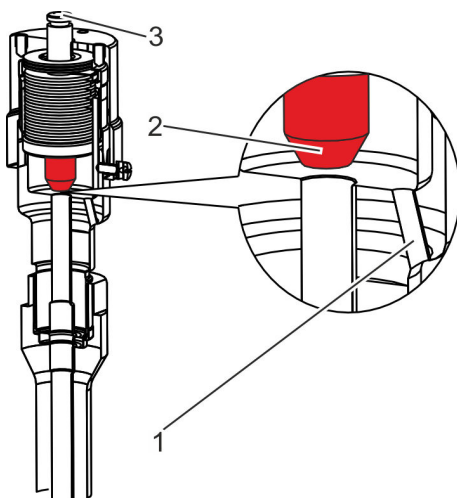

Fig. 8: Exceeding the triggering pressure
If the pressure in the gate valve exceeds the triggering pressure of the spring-loaded over pressure safety device, the cone (Fig. 8/2) is lifted out of the seat and the excess pressure is reduced via the blow-out opening (Fig. 8/1). The body is relieved.
- the vertical movement of the guide that protrudes from the body (Fig. 8/3)